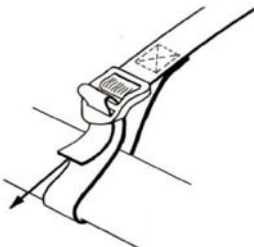

FIGURE 3
5. Attach the loose ends of the lashing straps to the cross-bars, as shown in figure 3.